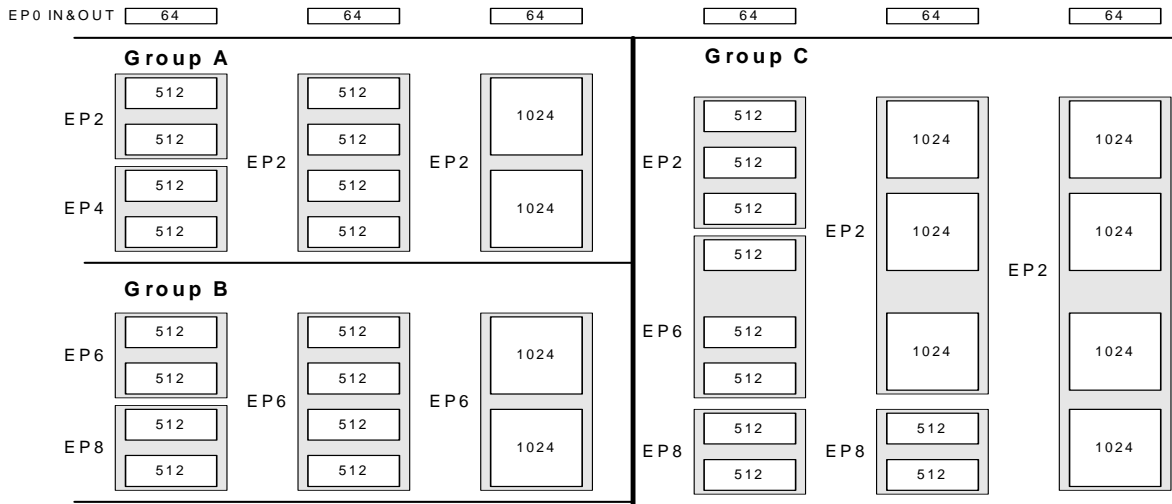

Figure 3-1. Endpoint Configuration
- EP2, 4, 6, 8—Eight 512-byte buffers, bulk, interrupt, or isochronous. EP2 and EP6 can be either double, triple, or quad buffered. EP4 and EP8 can only be double buffered. For high-speed endpoint configuration options, see *Figure 3-1*.
Endpoint 0 is the same for every configuration as it serves as the CONTROL endpoint. For Endpoints 2, 4, 6, and 8, refer to *Figure 3-1*. Endpoints 2, 4, 6, and 8 may be configured by choosing either: